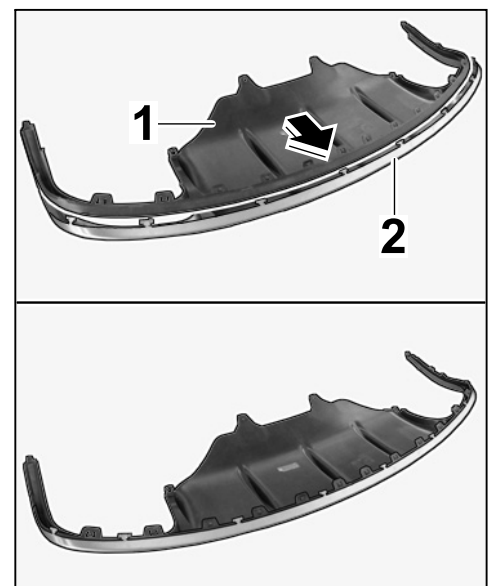

Figure 3
- 3.4 Position standard rear panel ⇒ *Figure 3-1-* in the stainless steel rear panel ⇒ *Figure 3-2-* (⇒ *Figure 3 -Arrow-*) (installation position).